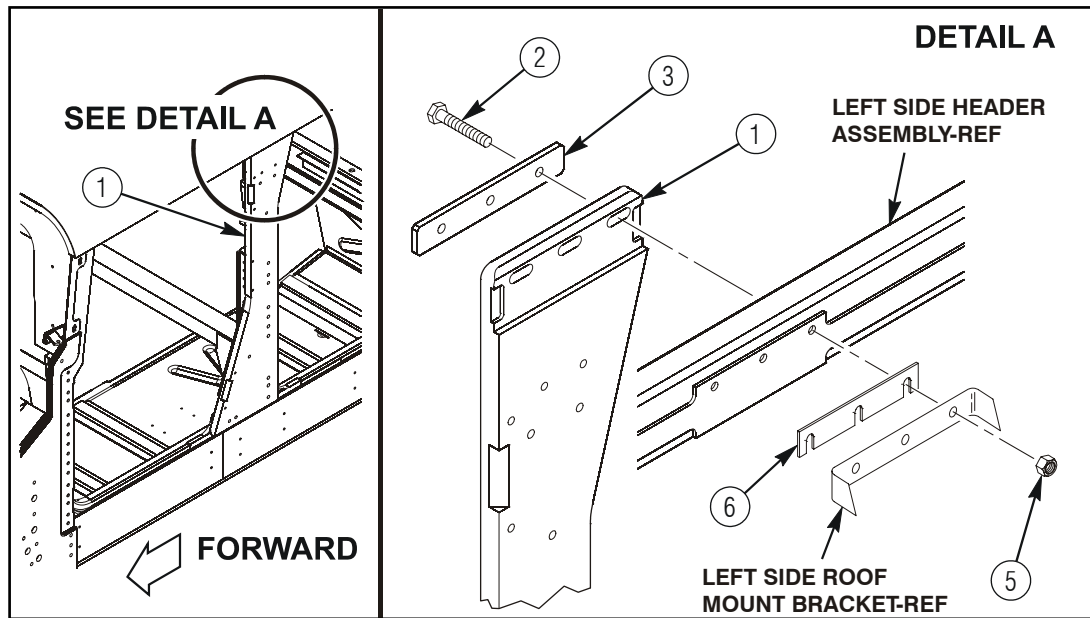

Figure 12a.
8. Install 6435148-01M1 or 6435148-200M1 left B-pillar plate (1) with three 4397000-041 capscrows (2), one 6435490-01M1 B-pillar upper washer plate (3), and three 4397064-003 locknuts (5) as shown in figure 12a. Install existing shims (6) as required, and hand tighten locknuts (5).
B-pillar spacer gages (7), and tighten three capscrows (item 2 figure 12a) to 21 lb-ft (28.5 N-m). Remove capscrows (8) and B-pillar spacer gages (7).